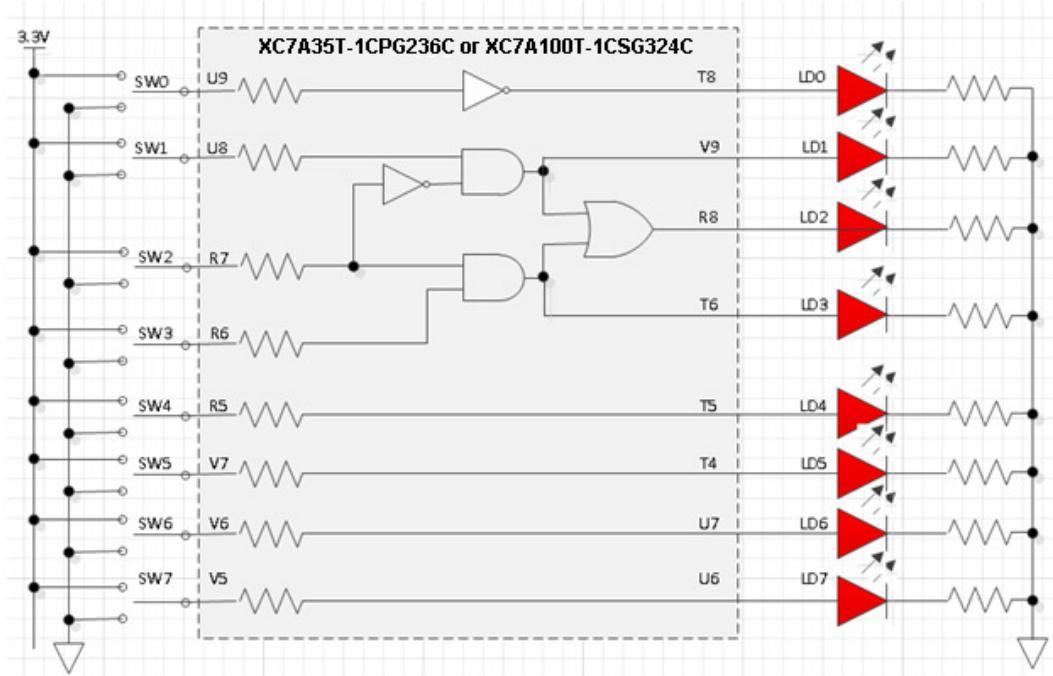

Figure 1. Completed Design
The design consists of some inputs directly connected to the corresponding output LEDs. Other inputs are logically operated on before the results are output on the remaining LEDs as shown in **Figure 1**.
- 2-2-3.** Similarly, change the output port **y** to **LD0** (as per the diagram in Figure 1).